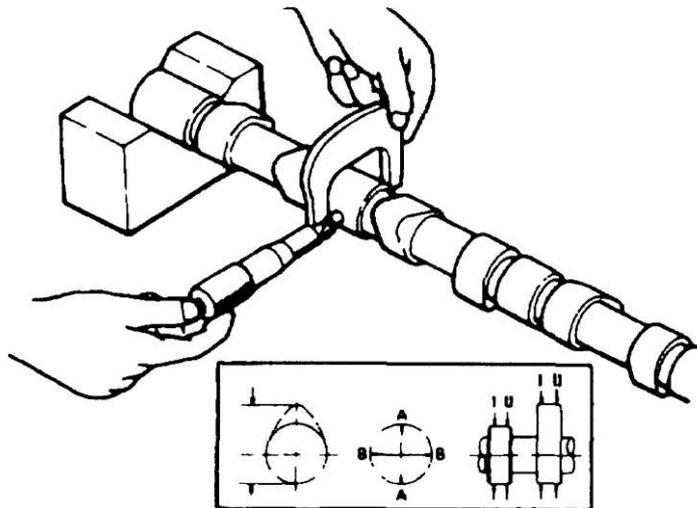

Figure 22 Measuring the Camshaft Bearing Journals
- f. Position the camshaft in V-blocks and with a micrometer measure the diameter of the camshaft bearing journals (Figure 22). The standard dimension is 55.60 to 55.97 mm (2.1889 to 2.2035 in). Position a dial indicator on the centre bearing and check the camshaft run-out. If the run-out exceeds 0.1 mm (0.0039 in) or the journal wear is below the limit, replace the camshaft.